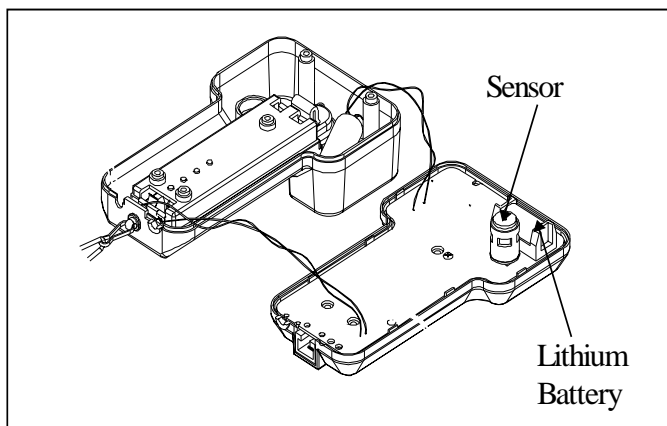

Figure 3-2: Replacing the Sensor or Lithium Battery
3. Remove the five screws (two on back of case, three inside the battery compartment). Pull apart the case carefully and lay the two halves side by side (shown in Figure 3-2).
4. The sensor is located in the right hand corner of the top case (see Figure 3-2). Pull straight up to remove the sensor and replace it with the new sensor. The connector on the sensor is keyed so it only fits into the socket one direction; do not force it.
4. After removing the cover from the lithium battery, remove the lithium battery (see Figure 3-2) by lifting lightly on the clip and pulling out the battery. Replace with a new battery, making sure to note the polarity markings on the battery holder. Replace the battery clip and cover.